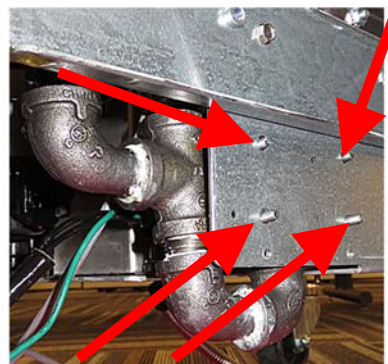

Figure 20
21. Once in place, insert the four (4) studs through the four (4) holes in the plate and attach with supplied nuts (see Figures 20 and 21).